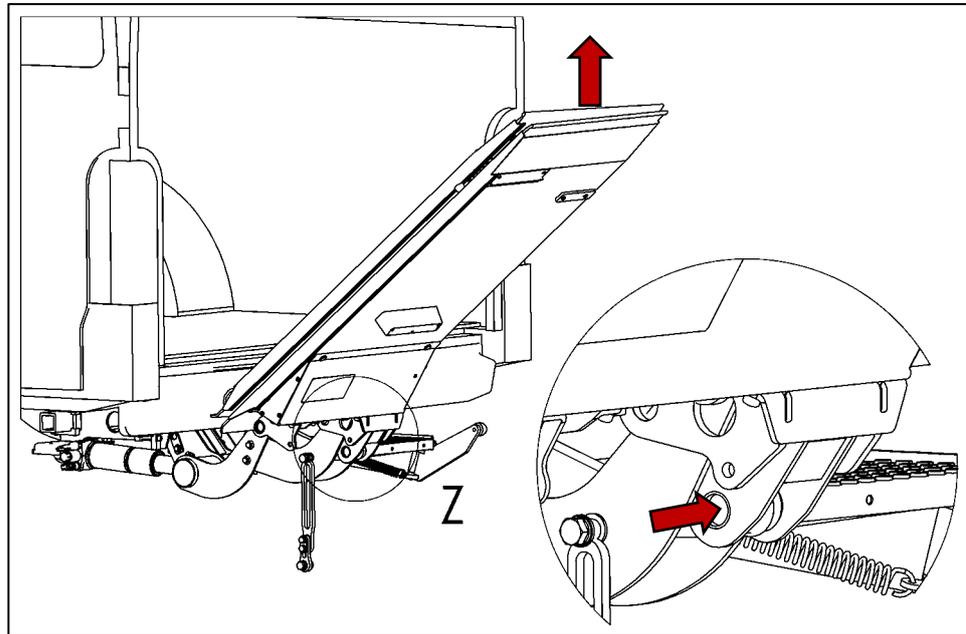

Figure 56
- Lift the tip of the platform until the closing-rod bearing point (attachment point for the closing rod) is aligned with the swing-arm bearing point (bottom attachment point on the platform) (see Fig. 56).